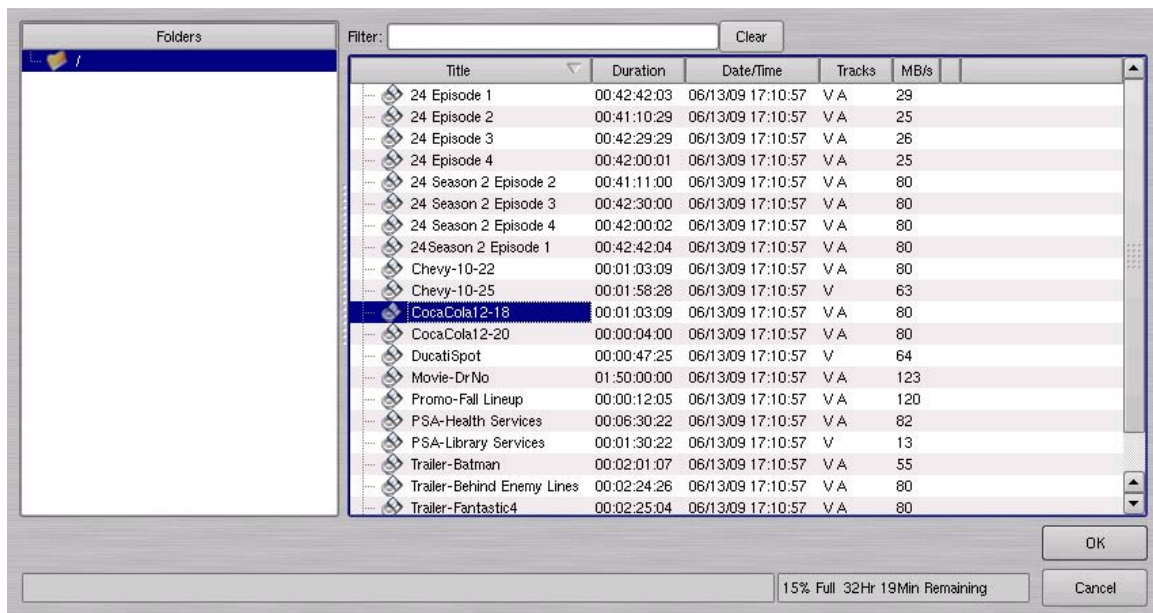

Figure 14 – Channel-1 Clip Navigator in “Open” Mode
1. Select **FILE > OPEN** from the Transport Window of Channel 1, 2, 3 or 4. The Clip Navigator shown in **Figure 14** appears.